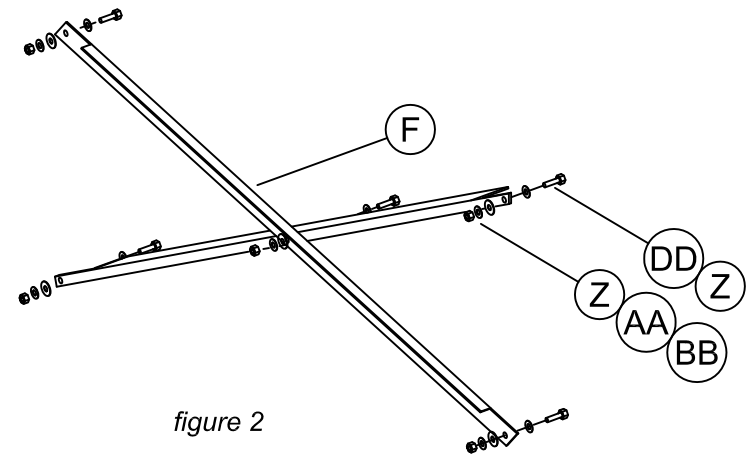

figure 2
1. Place the long Cross Braces 81 1/2" and medium Cross Braces 75 3/4" together- flat side to flat side, then bolt the center hole using Bolt (ITEM DD), Washers (ITEM Z), Lockwashers (ITEM AA) and Hex Nut (ITEM BB) (see figure 2).